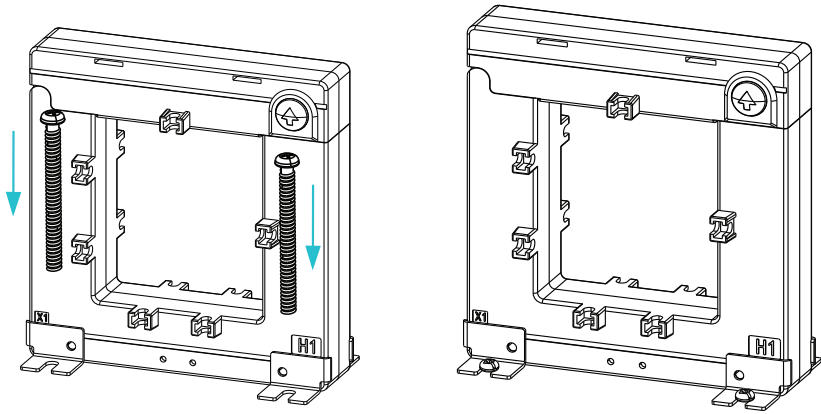

Figure 3 Mounting Screw in AcuCT-3337A to Panel
2. Insert all screws loosely first to allow alignment as depicted in Figure 3.